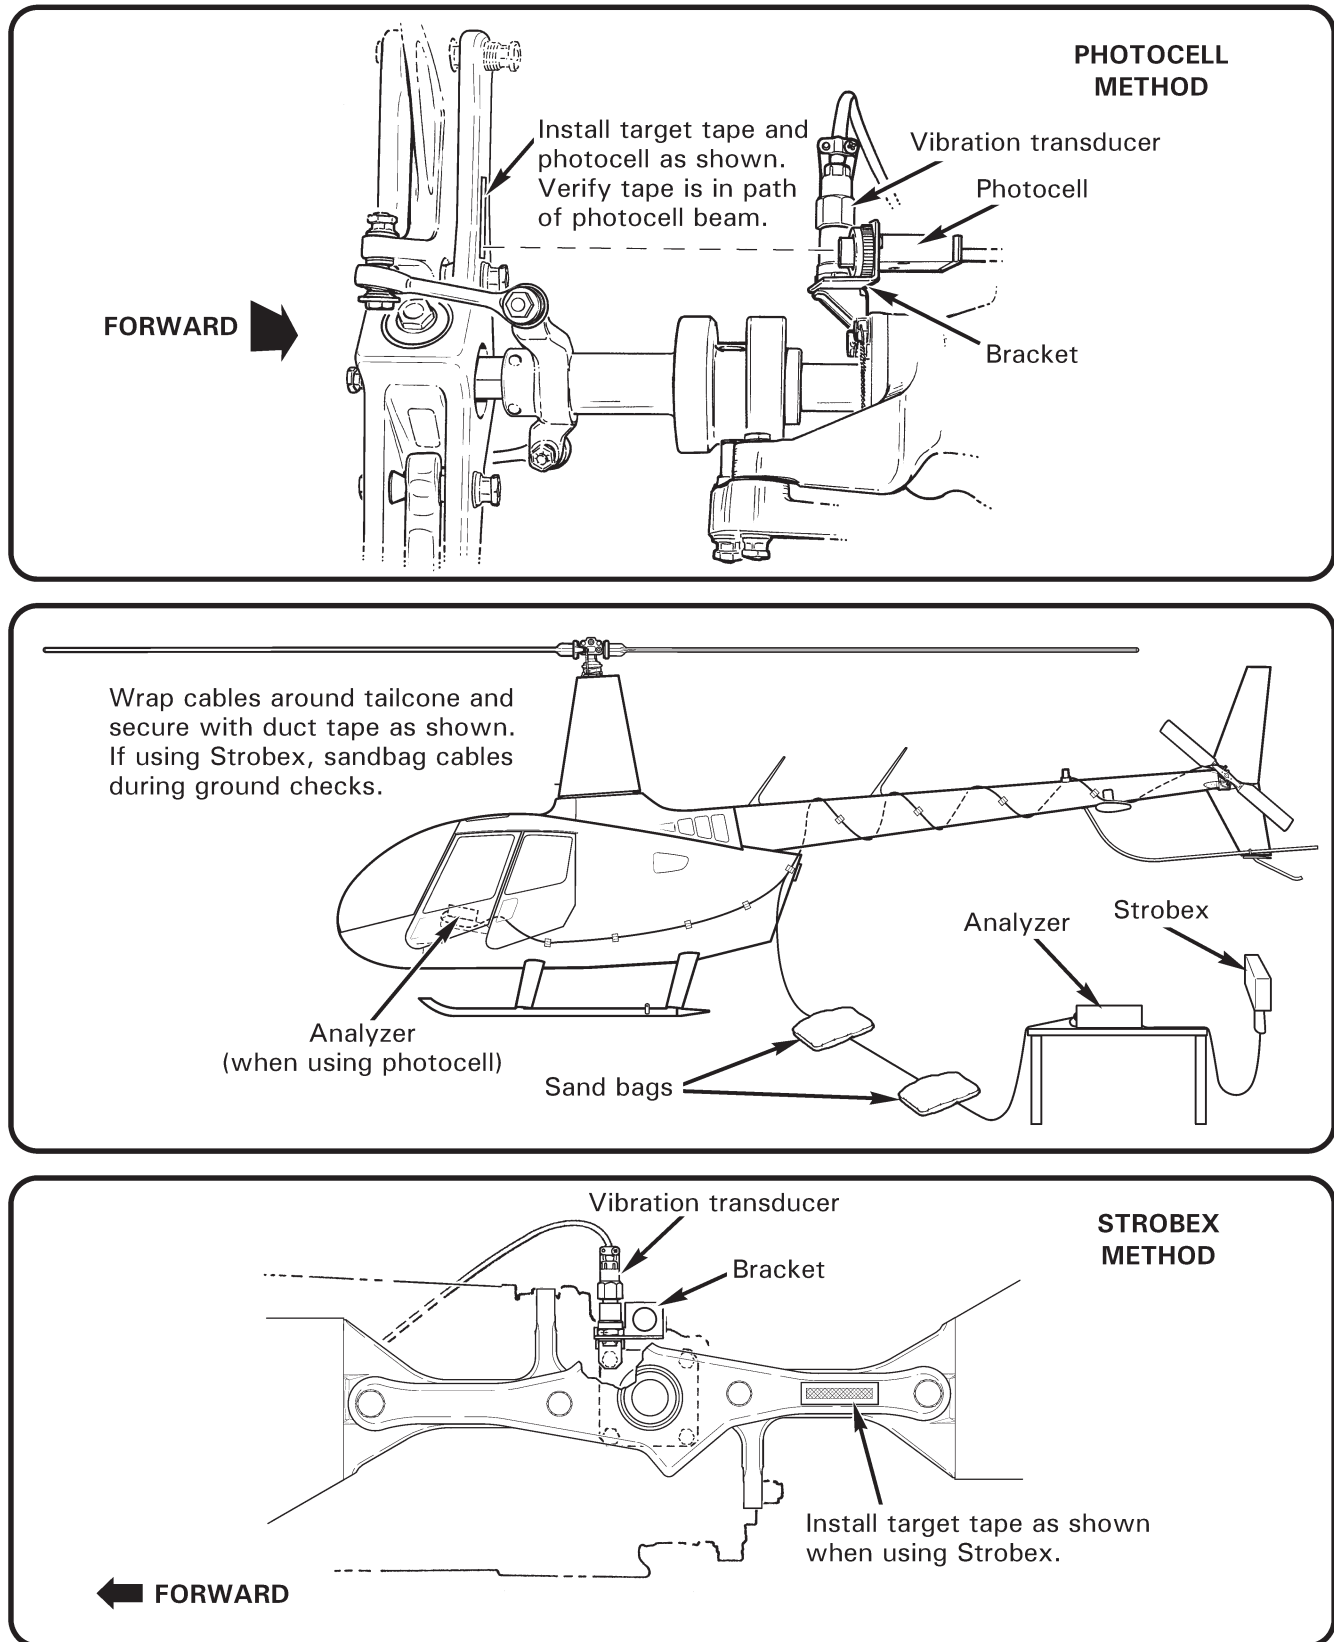

FIGURE 18-6 TAIL ROTOR BALANCING EQUIPMENT INSTALLATION
3. Refer to Figure 18-6. If using photocell to obtain clock angle, install a target tape spanwise on inboard side of one arm of tail rotor hub; if using Strobex, install a target tape spanwise on outboard side of hub.